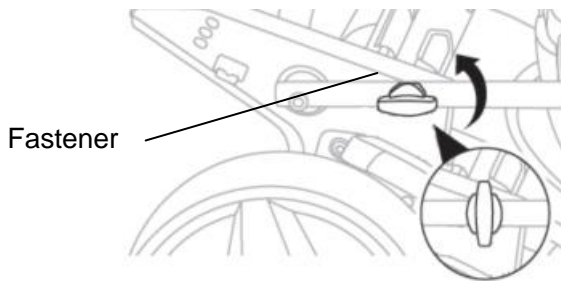

Fig.2A
1. Unscrew the locking knobs on the lower handle from the locking position. (Fig.2A)